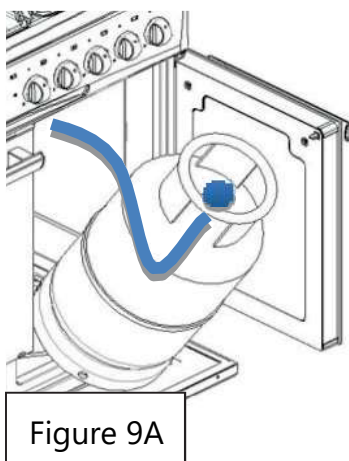
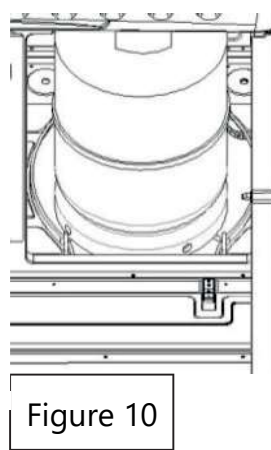

Figure 9A
Figure 10
- Put the cylinder inside the cabinet, placing the lower part in first (see Figure 9A) and then the upper part (Figure 10).